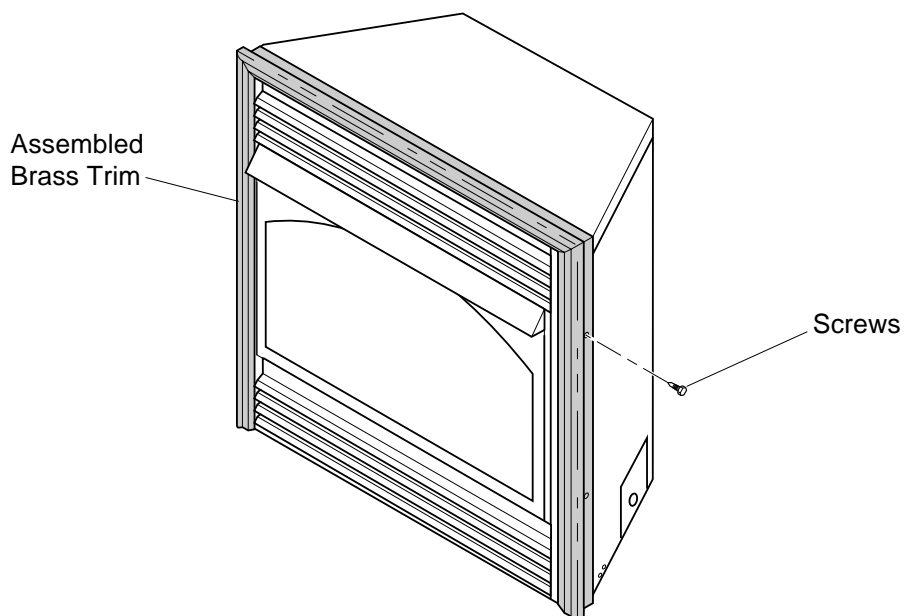

Figure 6 - Attaching Brass Trim to Fireplace
8. Place the assembled trim onto fireplace cabinet. Attach to fireplace with brass screws included in hardware package (see Figure 6).